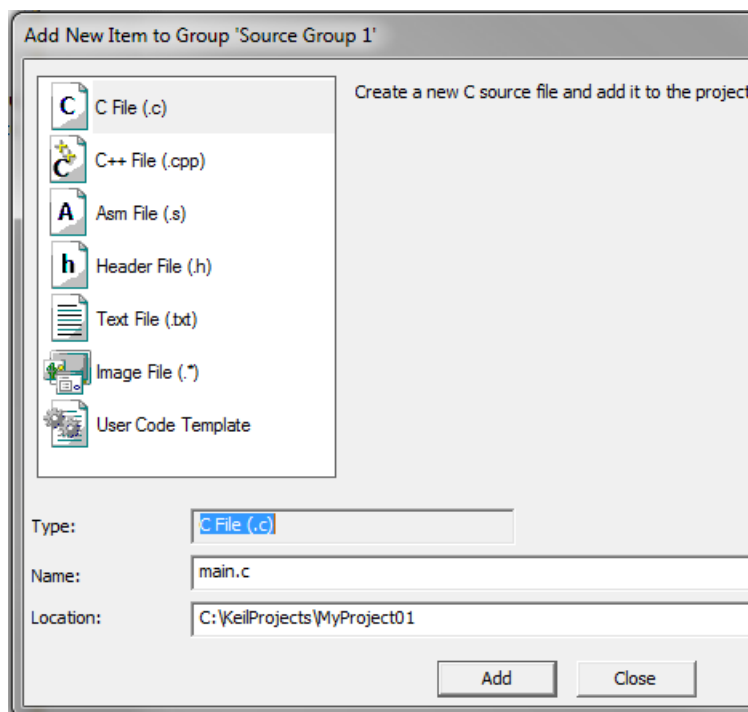

Figure 1-37. Adding new source file dialog
2. Select the C File (.c) option, and type a name of the file into the Name box, for example 'main.c'. See Figure 1-37.